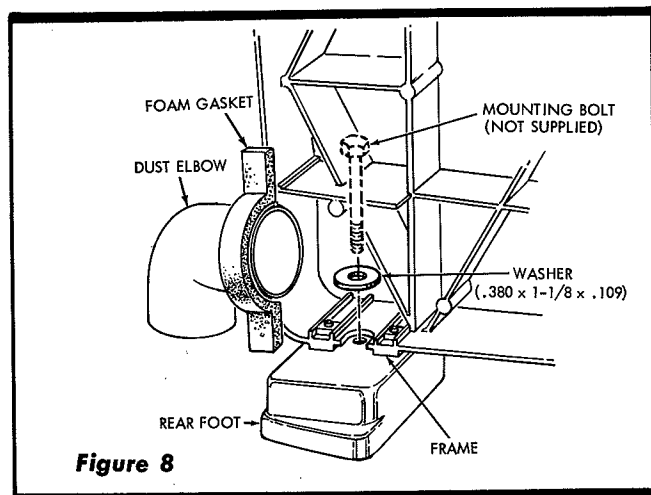

Figure 8
9. Remove the protective backing from the foam gasket (in loose parts bag) and attach the gasket, making it conform to the clamp as shown in figure 8. Make sure the ends of gasket extend slightly above and below the tube clamp, as shown.
2. When installing the bolt, (or screw — not supplied) in the rear foot, be sure to use the .380 x 1-1/8 x .109 flat washer (from loose parts bag) under the bolt (or screw) head in order to prevent sawdust leakage around the bolt. (See figure 8.)
- NOTE:** Make sure the washer is placed on the frame (figure 8) — not on rear foot.